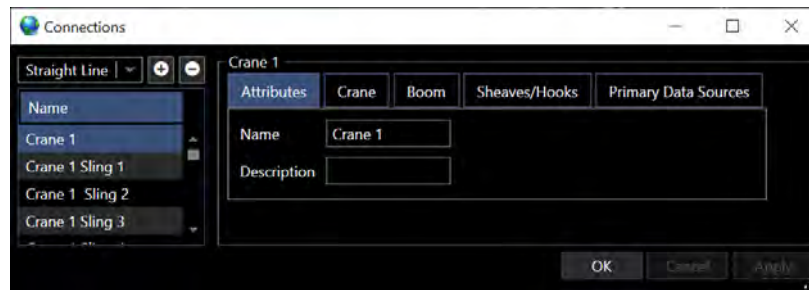

FIGURE 15-21 CONFIGURE CRANE CONNECTION DIALOG
- a. **Attributes Tab** (see Figure 15-21)